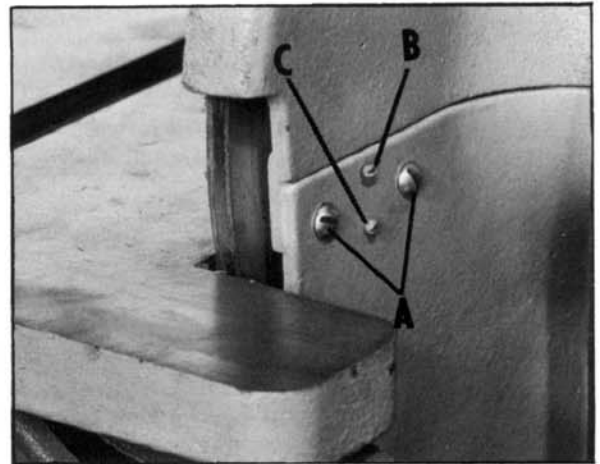

Fig. 4.
1. To tilt the guard forward at the top, slightly loosen the four screws that attach the guard to the disc sander (two of the screws are shown at (A) Fig. 4).
2. Loosen screw (C) and tighten screw (B) Fig. 4, to adjust the guard to the desired forward position at the top. NOTE: The adjusting screws at the opposite end of the disc sander must also be adjusted.
3. To tilt the top of the guard to the rear, follow the same procedure as above, except loosen screw (B) and tighten screw (C) Fig. 4.